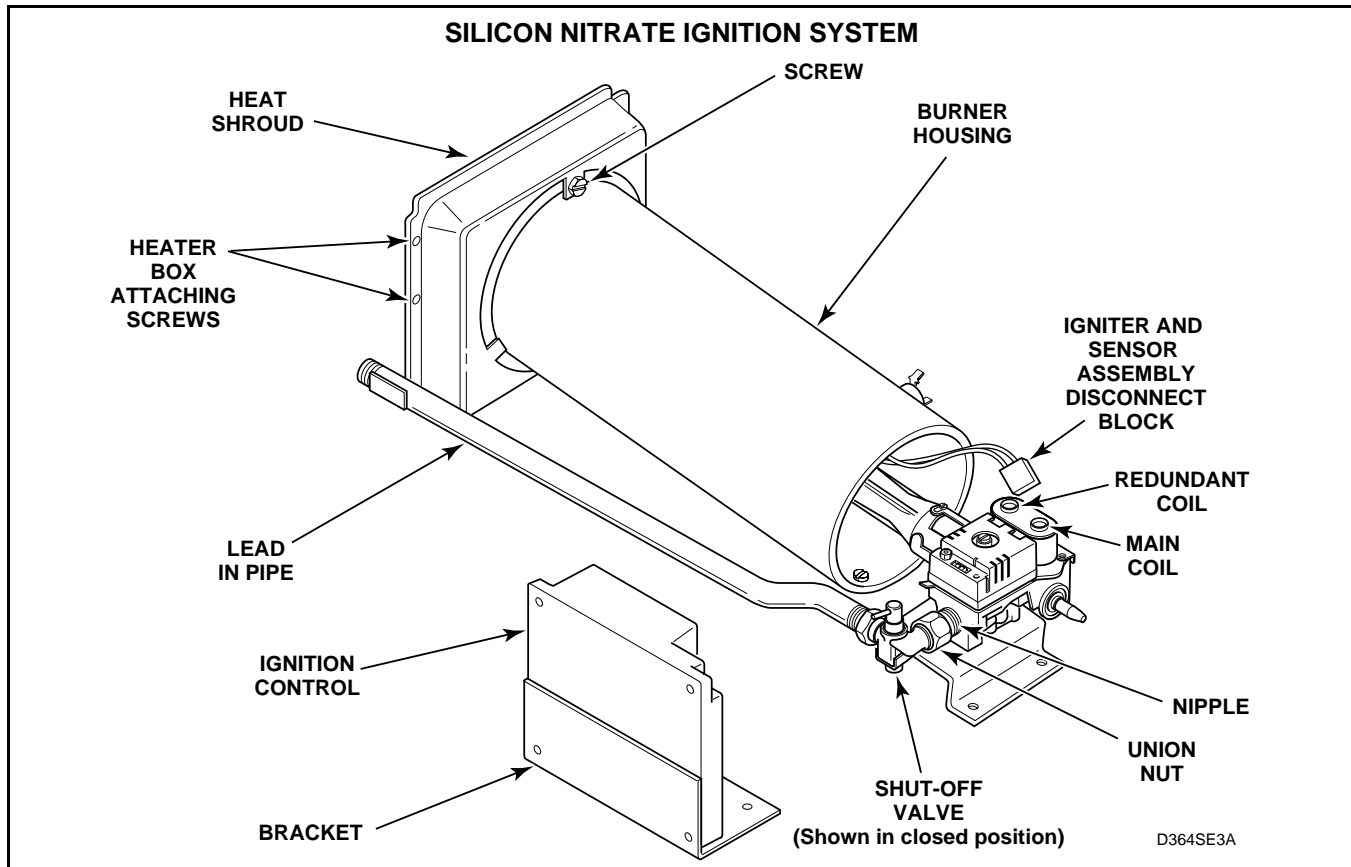

Figure 15
**Silicon Nitrate Ignition:** Disconnect wire harness from igniter and sensor assembly, and from gas valve coils at disconnect blocks. See Figure 15.
**Silicon Nitrate Ignition:** Disconnect wire harness from igniter and sensor assembly, and from gas valve coils at disconnect blocks. See *Figure 15*.
- Remove screw holding burner housing to heat shroud. See *Figure 15*.